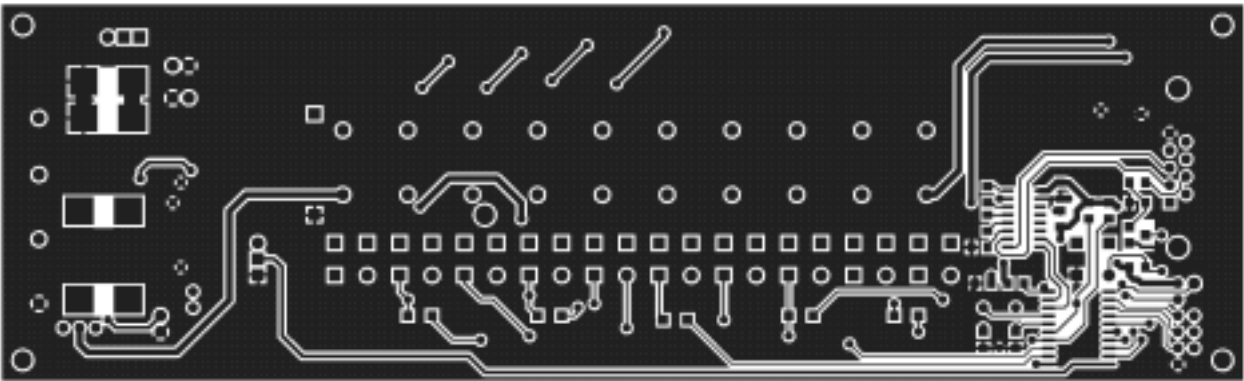

Figure 8. CAT310DB1 Board Layout – Bottom Side
- Figure 8. CAT310DB1 Board Layout – Bottom Side